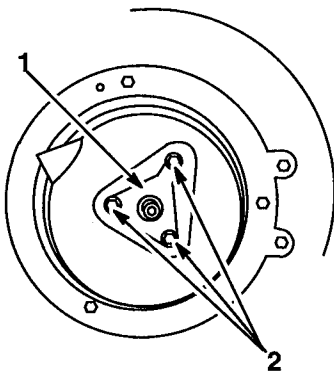

Figure 33
4. Remove bolts attaching muffler and crankshaft support (Fig. 33).